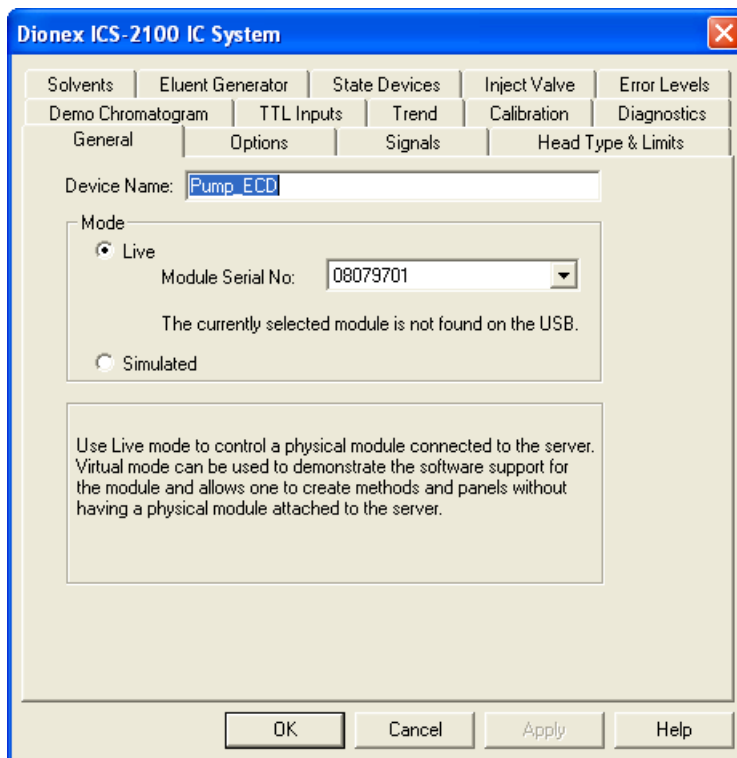

Figure 19. Example Properties Dialog Box: General Tab Page
9. Click the arrow next to **Module Serial No.** In the list, select the serial number of the system you are configuring (see Figure 19).